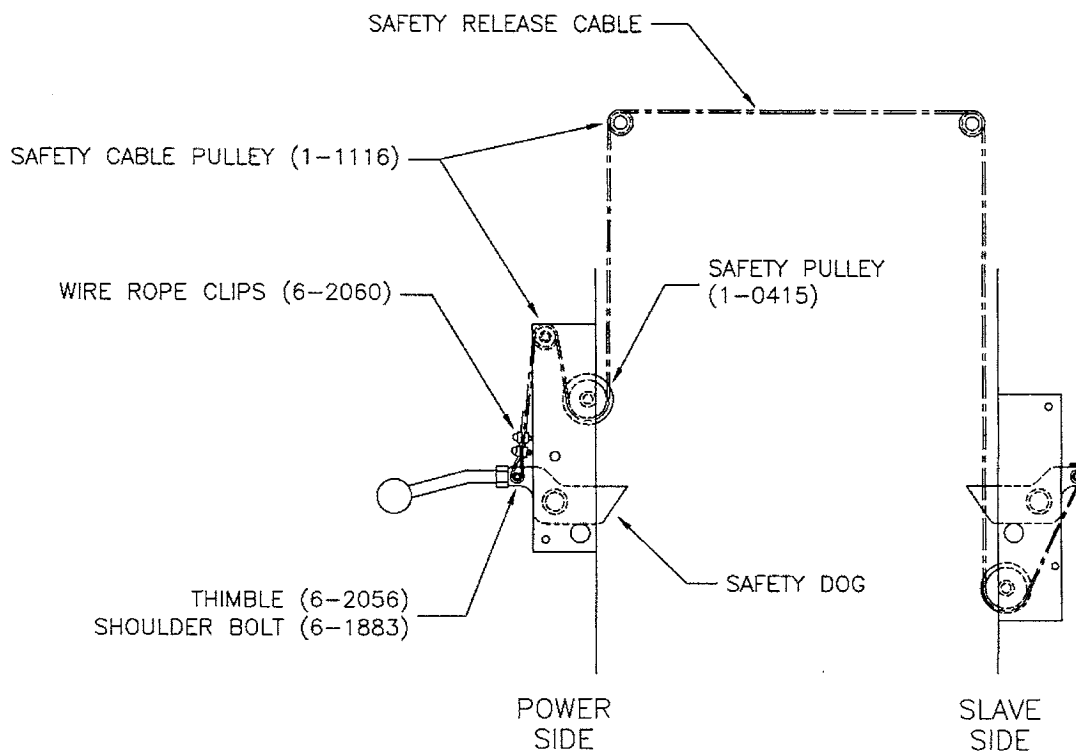

Figure 9 – Safety Release Routing and Adjustment
1. Refer to **Figure 9** for safety release cable routing. The end of the cable that has a collar attaches to the slave side tower. The free end is fixed to the power side tower using two (2) wire rope clips.
6. Guide the cable up under the large pulley and then over the small pulley towards the safety dog as shown in Figure 9. Wrap the cable around the thimble (attached to the safety dog with a 5/16" x 1/2" lg. shoulder bolt) and then clamp it using two (2) wire rope clips. Do not tighten fully at this stage.